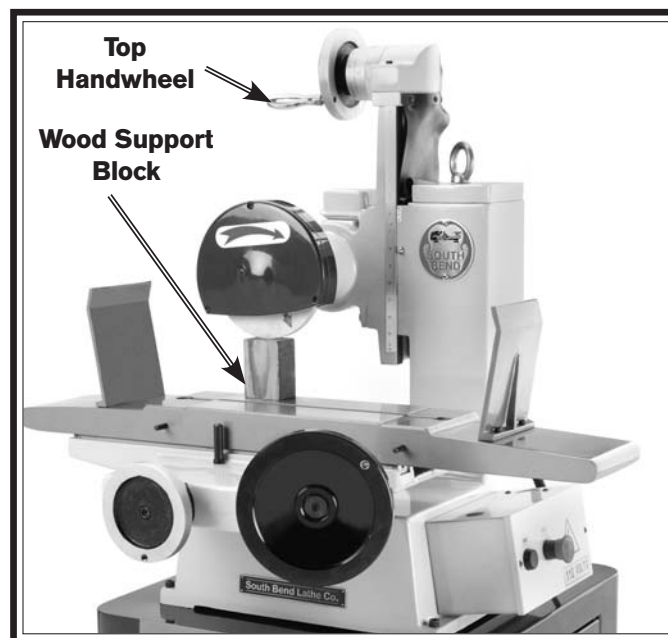

Figure 8. Support block.
9. Rotate the top handwheel counterclockwise to raise the headstock slightly. Then remove the wood support block (see **Figure 8**).